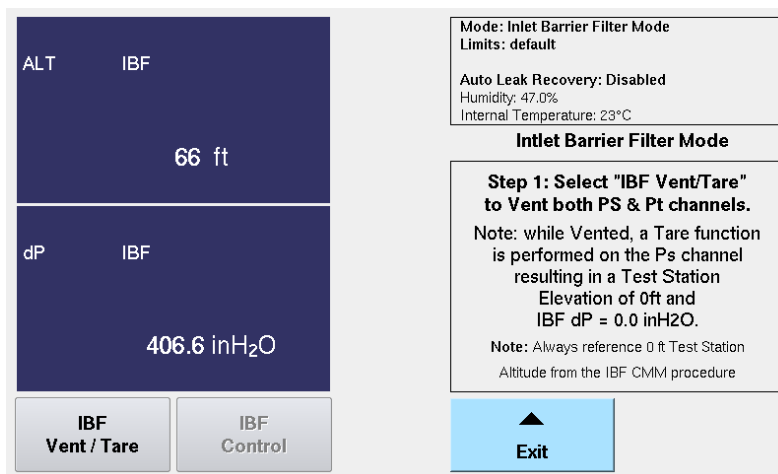

Figure H. 4 IBF Step 1 Screen
- Touch "IBF Inlet Barrier Filter Mode". Step 1 screen is displayed with the message below (Fig. H. 4).